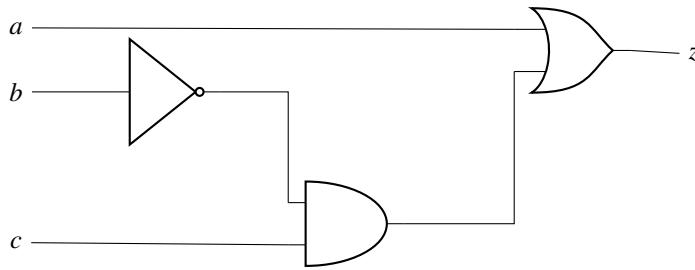

Fig. 3.33
50. Consider the Boolean function $Z(a, b, c)$. Which one of the following minterm lists represents the circuit given below in Fig. 3.33?